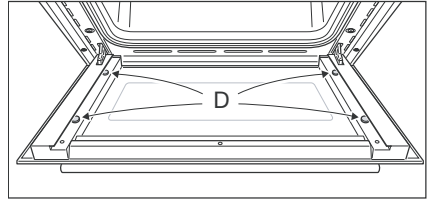

Fig.56a
- Check that the four rubber pads are in place ("D" in Fig. 56a).